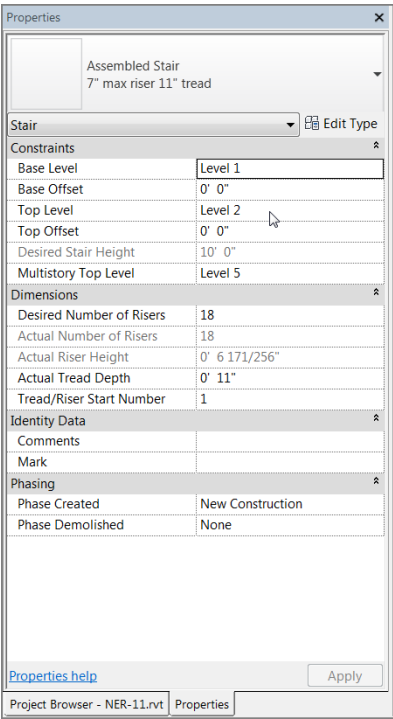

FIGURE 10.3: Changing the Element Properties of the stairs
9. Change Multistory Top Level to Level 5 (see Figure 10.3).